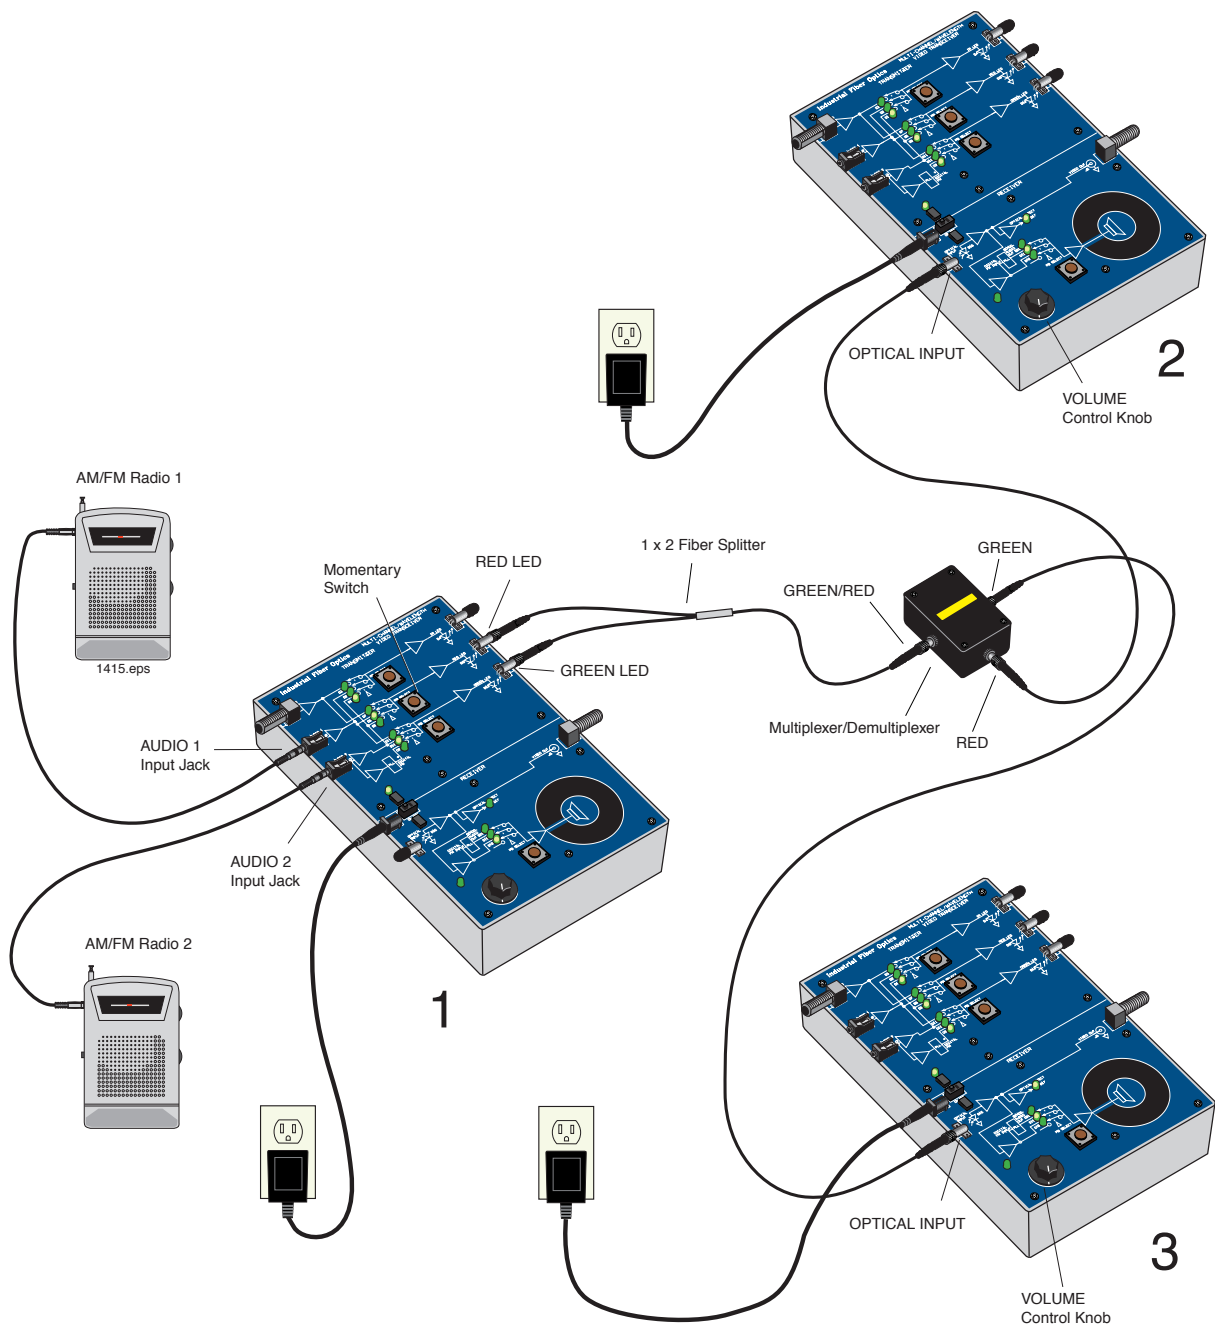

Figure 32. Fiber optic equipment set-up to demonstrate optical demultiplexing.
1. Your equipment set-up should look like Figure 32 when completed. You may wish to reference this figure as you complete the following steps.
you do not hear a different radio station at Transceiver 2 and 3, compare your equipment set-up to Figure 32 for errors.